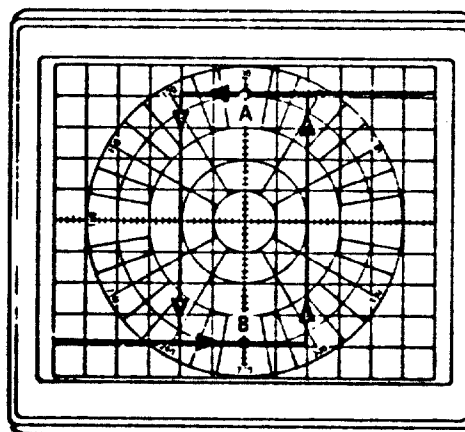

Figure A4-16. Hysteresis Loop of Phase Trace
- d. Set SCAN TIME SEC to MANUAL. Sweep through the transition in both forward and reverse direction using the Manual sweep control. Note the hysteresis loop as shown in Figure A4-16.
- e. Adjust both CW FREQUENCY and  $\pm\Delta F$  FREQUENCY to make the hysteresis loop six divisions wide and centered on the vertical center line of CRT. (See Figure A4-16.)
- f. Press Channel 1 DISPLAY MKR. Center trace dot on the vertical center line at point "A" on Figure A4-16 trace. The marker readout should be  $+180 \text{ degrees} \pm 2 \text{ degrees}$ .
- g. Center trace dot on the vertical center line at point "B" on Figure A4-16 trace. The Channel 1 marker readout should be  $-180 \text{ degrees} \pm 2 \text{ degrees}$ .